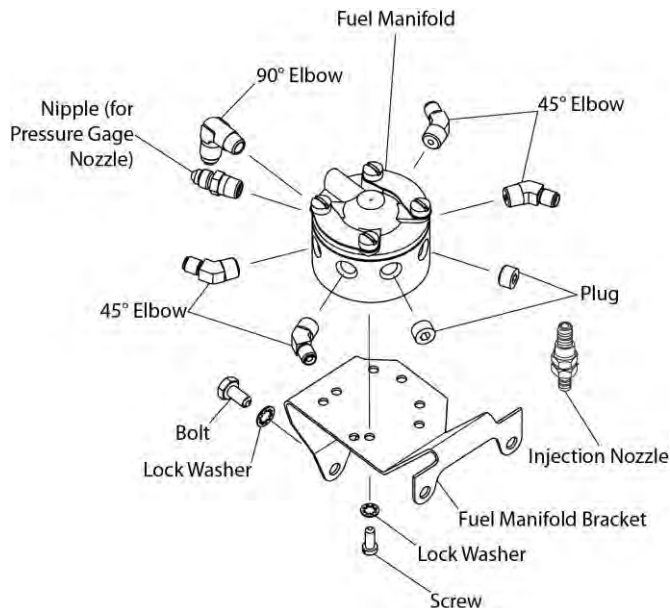

Figure 9
- (1) Put a fuel collection container under the fuel manifold.
- (2) Identify the fuel line ports on the fuel manifold (Figure 9).
- (6) Remove the bolts, screws, lock washers, bracket, and the fuel manifold from the fuel injector (Figure 9). Discard the lock washers.
- (7) Remove the fuel collection container.
- (1) Install the fuel manifold and the bracket (Figure 9) on the fuel injector with the hardware fasteners. Torque the bolts and screws on the bracket to 25 to 30 in.-lbs (2 to 3 Nm).